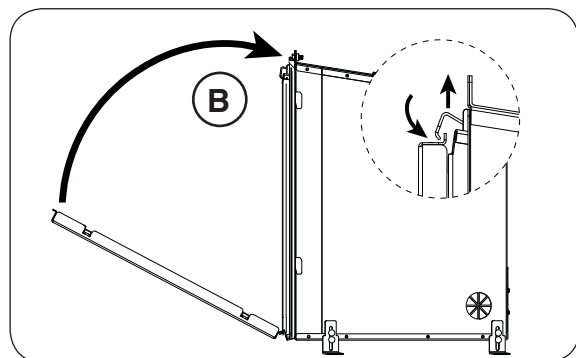

Fig. 31-2 Secure glass panel
2. With the bottom of the panel in place, rotate the panel upward until it closes. Then pull the spring latches (found on the top of the unit) out and over the two tabs found on the top of the panel. See Fig. 31-2, "B".